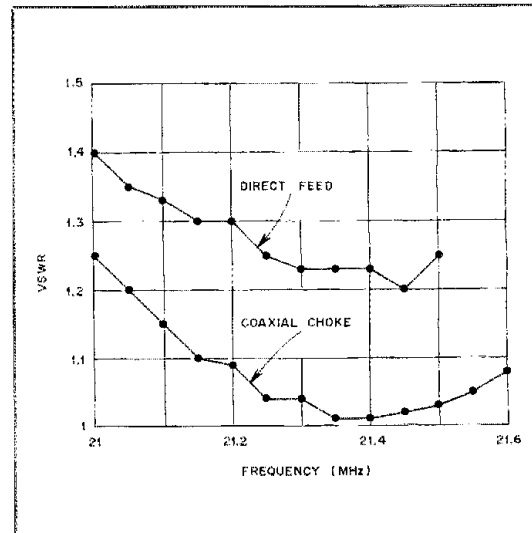

Fig. 2 — The VSWR performance of the 15-meter vertical-V antenna with and without the coaxial cable choke.
The input impedance of the antenna is a function of the apex angle. My prototype employed an apex of 100° . As shown by the SWR curves in Fig. 2, excellent bandwidth and low SWR were attained. The data suggest, however, that an even better match to 50-ohm coaxial cable could be obtained by reducing the apex angle slightly to between 90° and 95° .
Initially, the antenna was fed directly by RG-8/U coaxial cable. With this arrangement the upper SWR curve shown in Fig. 2 was obtained. The SWR seemed too high and my Century 21 transceiver was bothered by severe distortion in the keying monitor. Rf feedback, traced to rf flowing along the shield of the transmission line, takes the blame for this condition. A coaxial choke installed at the antenna feed point solved the difficulty. This choke is constructed by simply forming a 5-in. (130-mm) dia coil consisting of four turns of transmission line that is taped to the mast.
Under some conditions of propagation the signal may take two hops (double-hop skip), and the distance covered will be even greater. The radiation angle will, however, still determine the actual distance of the communication. The angle of radiation is shown in simple form versus antenna height in Fig. 2 at B and C.
Fig. 2 — If we could rise above our dipole antenna and observe the radiation, we would see the figure-8 pattern at A. This would be seen if the horizontal dipole was 1/2 wavelength or greater above ground. The lobes are off the broadside of the dipole. At B we can see the effect of having the dipole only 1/4 wavelength above ground. There is no apparent directivity, and the radiation angle is very high. At a height of 1/2 wavelength (C), the dipole exhibits two major lobes and has a much lower radiation angle (desired for DX work).
Dipoles are bidirectional (figure-8 pattern) off the broad side of the antenna, but only when the dipole is 1/2 wavelength or more above ground. The closer the antenna is to the earth, the less directional it becomes and the higher the radiation angle will be (Fig. 2). The sloper and inverted-V configurations produce essentially vertical polarization, which is excellent for ground-wave and DX contacts. The sloper, if not mounted on a metallic support, will be omnidirectional in response, as will the inverted V. If either antenna is supported on a steel mast or tower, there will be some directivity (not gain) in the direction of the wire slope.
Fig. 2 — Timing diagrams for IC-255A/interface data exchange: at A, address transmission; at B, data sent from interface to IC-255A and at C, data sent from IC-255A to interface.